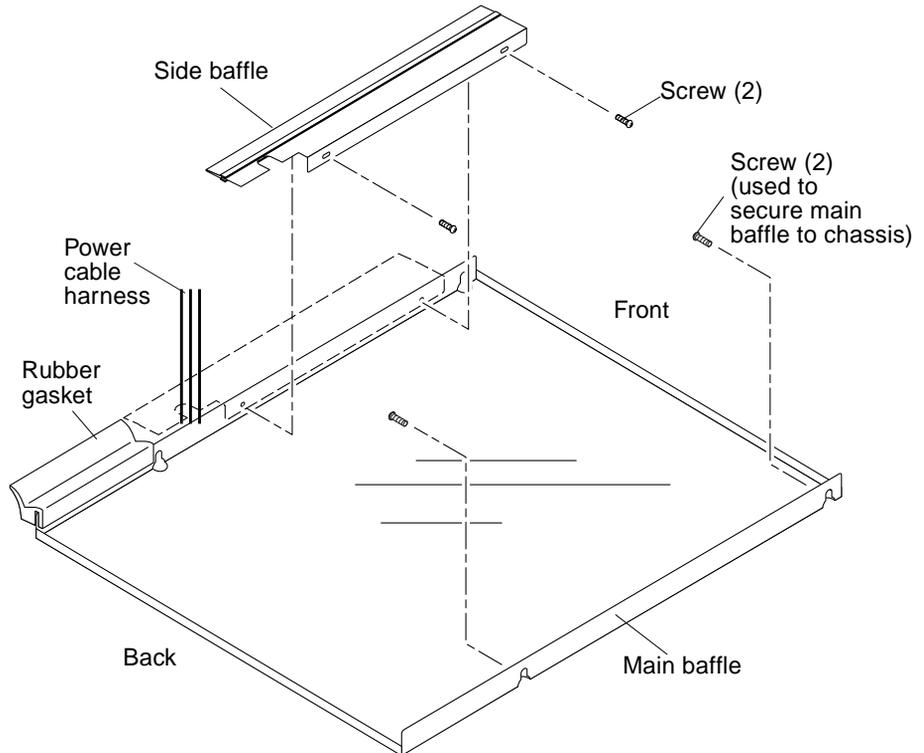

FIGURE 4-7 Removing the Side Baffle
1. Loosen and remove the two screws that secure the side baffle to the main baffle (FIGURE 4-7).
2. Slide the side baffle onto the left side of the main baffle, passing the side baffle notch around the power cable harness (FIGURE 4-7 on page 4-11).